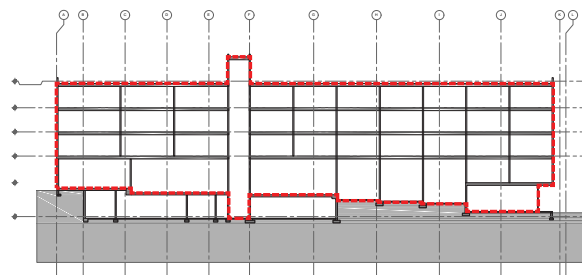

Fig. 8-4 Whole-building section with the continuous air barrier system pressure boundary denoted in red.
- ✓ Clearly delineate the air barrier system boundary on the construction documents. This practice is typically performed on the floor plans for each building level and on each building section as shown in Fig. 8-4. This delineation is required by the City of Fort Collins energy code (local amendments to the 2015 IECC) for compliance,¹¹ in addition to the calculation of the air barrier pressure boundary surface area.